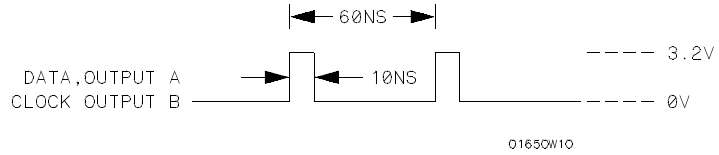

Figure 3-3. Waveform for Data Test 1
- Adjust pulse generator for the output in figure 3-3.